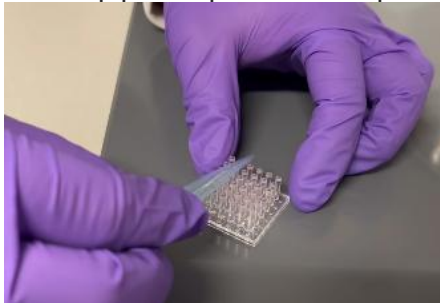

Figure 3. Scraping excess cell-Matrigel-alginate mixture from the pillars using a 1 mL pipette tip.
16. After loading the cell-Matrigel-alginate mixture on all pillars, remove excess cell-Matrigel-alginate by horizontally sliding a 1 mL pipette tip across the pillar surfaces (Fig. 3).